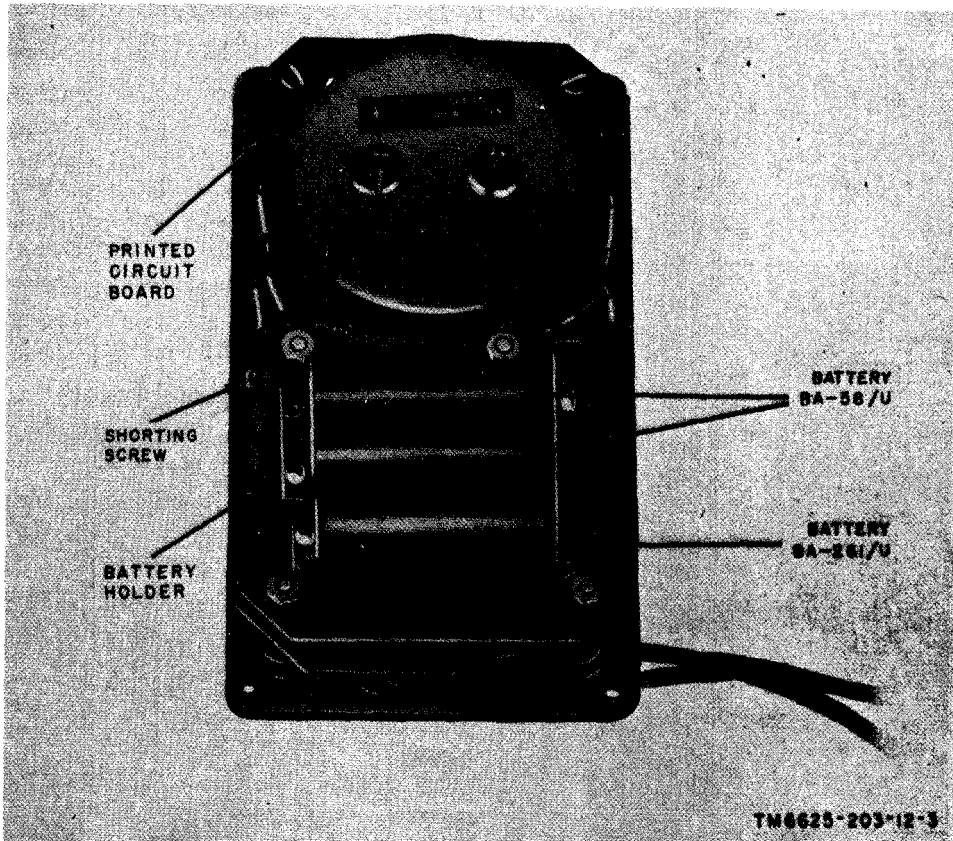
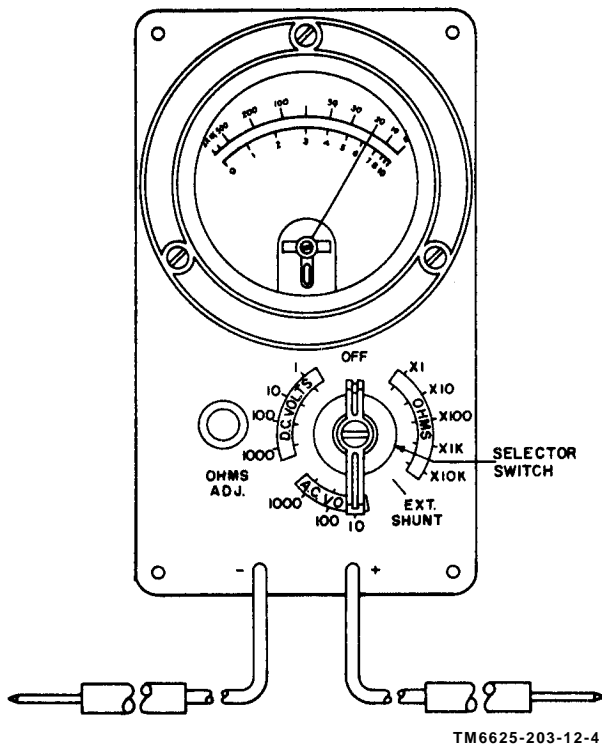

Figure 3. Multimeter ME-77/U, panel, rear view.
Figure 4. Multimeter ME-77/U, operating controls and indicator.
b. Multimeter ME-77/U, the major component of the AN/URM-105, consists of a panel (fig. 3) mounted in a plastic case. The operating controls (fig. 4) and the meter are mounted on the face of the panel. All circuit components are secured to the rear of the panel. The test leads are permanently attached to the printed circuit board and secured to the rear of the panel the test leads extend through the panel. The cover is secured
c. Observing the polarity indicated on the battery holder (fig. 3), install Battery BA-261/U and Batteries BA-58/U. Check to be sure that the batteries are firmly seated against both contacts.
a. Improper setting of the selector switch (fig. 4) may damage the multimeter. When measuring unknown voltage values, start at the highest range (1,000 volts) and reduce the setting of the selector switch one step at a time until the meter pointer indicates near the center of the scale.
b. The multimeter is shipped with the shorting screw (fig. 3) in the open position. When making direct current measurements (par. 23), the shorting screw must be placed in the closed position. When the shorting screw is in the closed position and the selector switch is in the EXT. SHUNT position, the meter is connected directly in parallel with the test leads. If the meter is connected directly into a circuit without the use of an external shunt, the meter will become damaged.
Shorting screw (fig. 3).	In closed position, sets up multimeter for measuring current when selector switch is in EXT. SHUNT position; in open position, prevents damage to meter if voltage is applied to test leads with selector switch in EXT. SHUNT position.
13. Dc Voltage Measurements (fig. 4)
b. Remove the nut from the shorting screw (fig. 3) and remove the shorting screw from the printed circuit board.
- (1) Remove the panel from the case.
- (2) Remove the nut, insulating washer, and shorting screw from the printed circuit board.
- (3) Place the insulating washer on the shorting screw.
- (4) Replace the shorting screw, with the insulating washer, in the printed circuit board; secure the shorting screw with the nut.
- (5) Replace the panel in the case.
a. Set the selector switch (fig. 4) to the OFF position.
- (1) Set the selector switch (fig.4) to OHMS X1.
- (2) Touch the tips of the test prods together; the meter pointer should deflect to the right.
- (3) Turn the OHMS ADJ. control to its maximum clockwise position; the meter pointer should deflect to zero (0) or to the right of zero on the OHMS scale. If the meter pointer does not deflect to zero or to the right of zero, replace Batteries BA-58/U (*b* below).
- (4) Set the selector switch to OHMS X1K and check to be sure that the tips of the test prods are touching. The meter